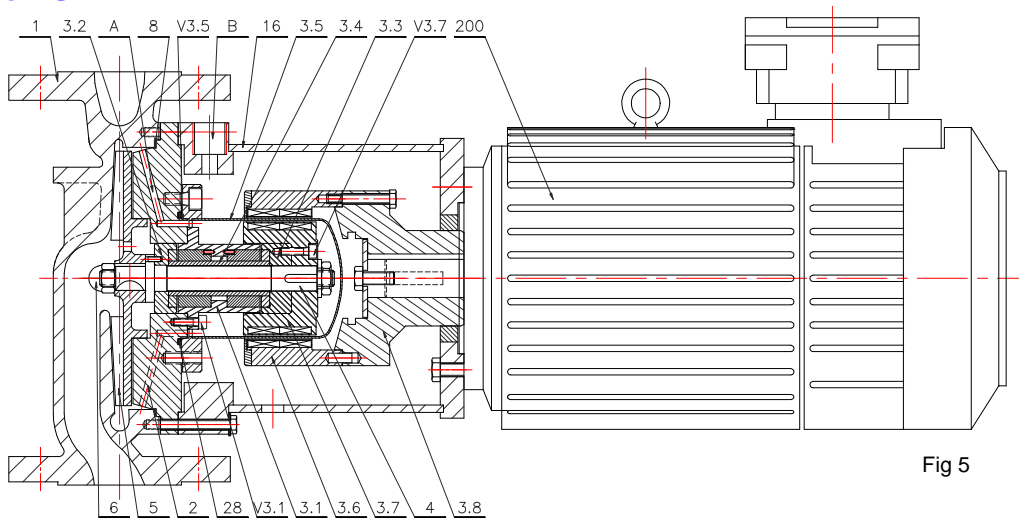

Fig 5
- Pumps 317, 517 and 613 are inline pumps fig.5